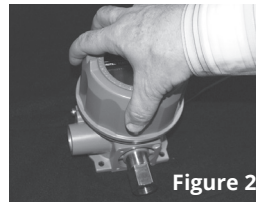

Figure 2
- 1 Remove the enclosure cover by turning it counter-clockwise for 7 revolutions (Figure 2).